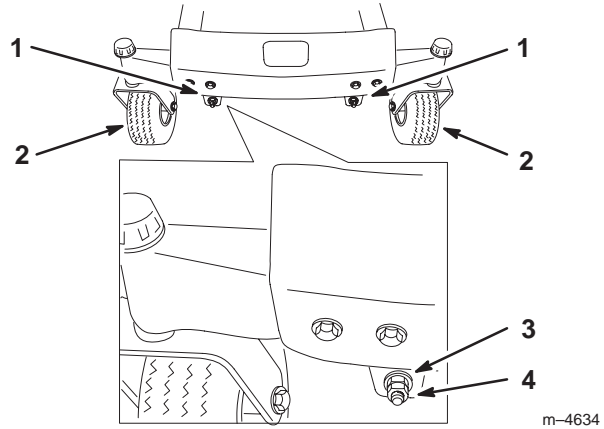
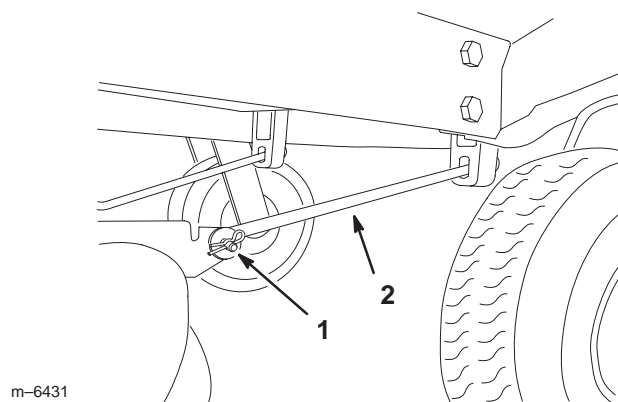

Figure 42
Figure 44
10. To adjust the front-to-rear blade slope, remove the locknuts and then rotate the adjustment nuts in the front of the mower (Fig. 42).
12. After adjusting both adjustment nuts evenly, check the front-to-rear slope again. Continue adjusting the nuts until the front blade tip is 1/16–5/16 inch (1.6–7.9 mm) lower than the rear blade tip (Fig. 42).
Note: After adjusting the adjustment nuts, make sure there is **no slack** in either support rod (Fig. 44). Tighten either one to remove the slack (Fig. 42).
4. Remove the hairpin cotter and clevis pin from the front support rod on each side of the mower.(Fig. 44).
7. Attach the front support rods to the tractor with the clevis pins and hairpin cotters (Fig. 44).